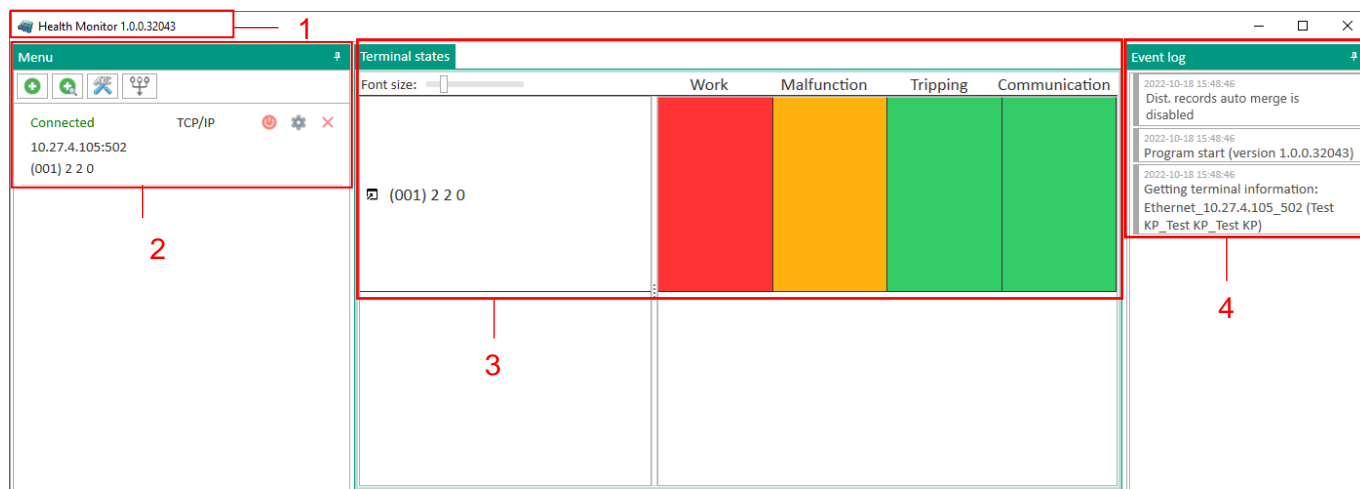

Figure 251 – Standard Health Monitor window
- title containing the name and version of the program (figure 251, item 1);
- **Menu** (figure 251, item 2);
- **IED states** (figure 251, item 3);
- **Event log** (figure 251, item 4).